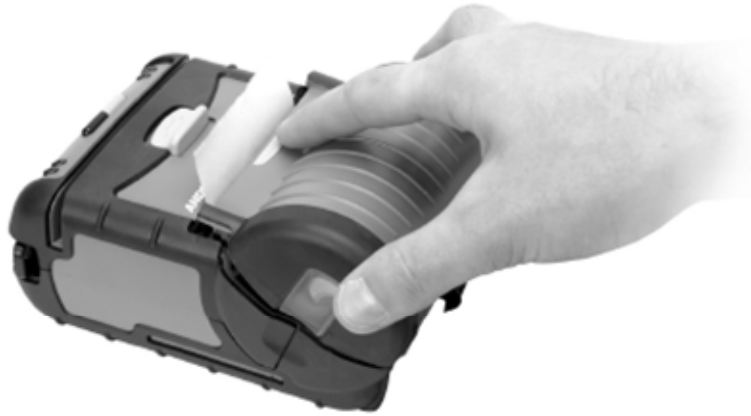

FIGURE 8 – CLOSING PRINTER
- Close the paper door and press close as shown in Figure 8.
The printer's paper door acts as a tear bar. Pull one edge of the paper against the tear bar as indicated, then tear down and across against the tear bar to tear the paper. See Figure 8 for details.